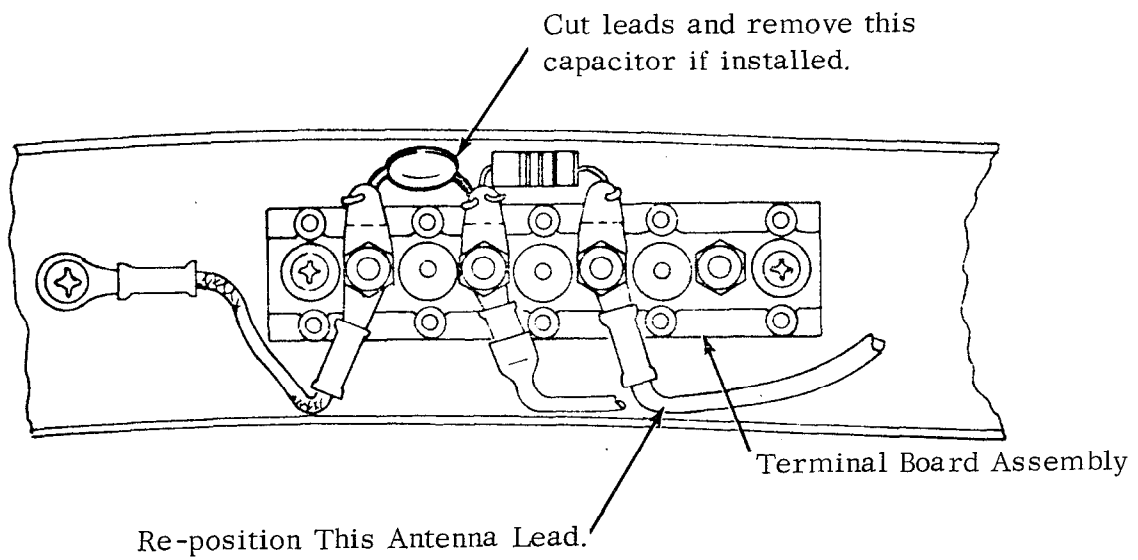

FIGURE 1 - Terminal Board Prior to Modification
3. Inspect antenna terminal board for position of antenna lead attachment and presence of capacitor (if installed); referenced attached sketch fig. 1.